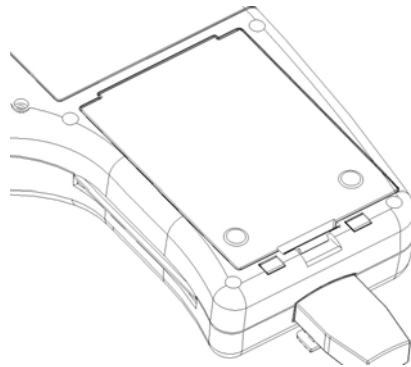

Figure 3 Installing the battery
1. Install the battery into the slot (Figure 3). A new H50 terminal may have a battery pre-installed and require removal of the contact guard.